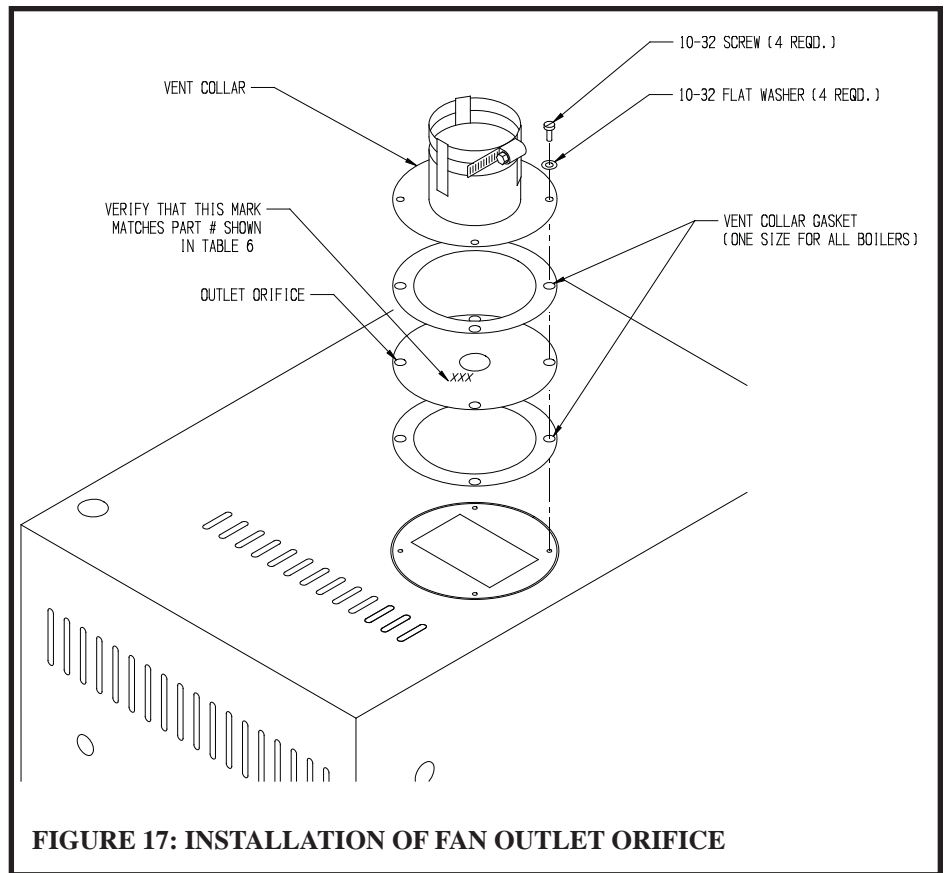

FIGURE 17: INSTALLATION OF FAN OUTLET ORIFICE
- Vent Collar Installation** – The vent collar is shipped loose in the accessory bag along with two collar gaskets, the outlet orifice, and four 10-32 mounting screws. Verify that the 6 digit part number model number marked on the outlet exhaust orifice matches that shown in Table 6. Mount the collar and orifice as shown in Figure 17. If desired, the first piece of exhaust pipe can be connected to the collar before mounting the collar on the boiler.